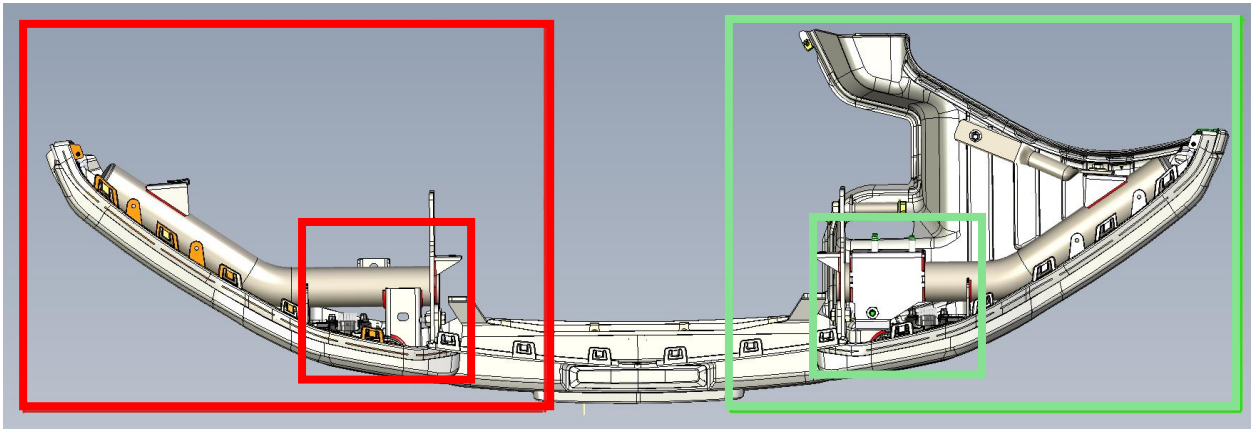

Figure 2 – Top View Passenger side NO AEV Frame Bracket / Driver Side WITH AEV Frame Bracket
- a. [2] M10 Bolts (11588738) feed upward through bumper and frame bracket on each side – Fig. 2 & 3